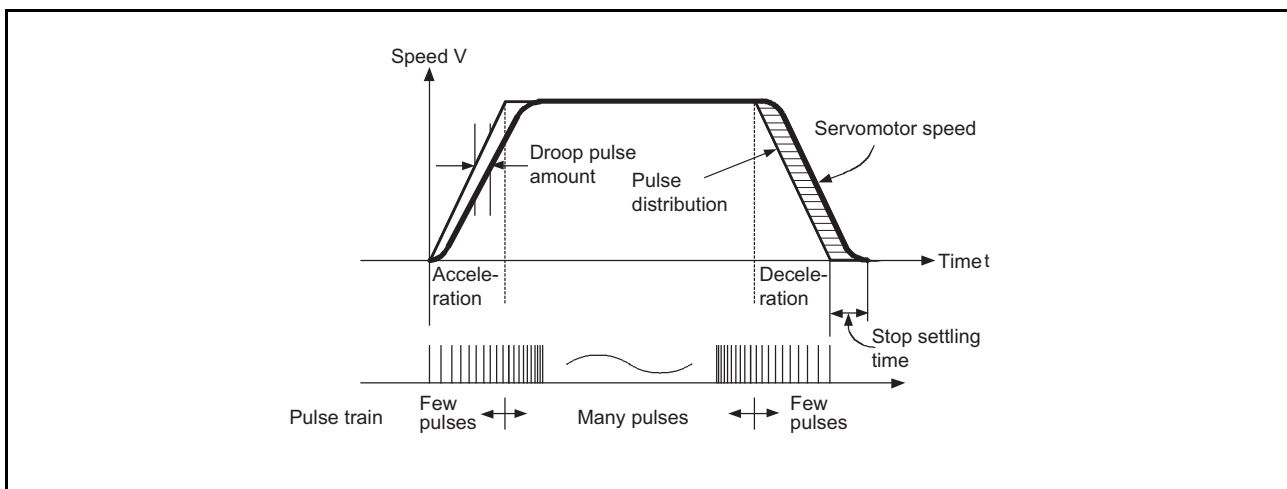

Figure 1.3 Output pulse from the QD72P3C3
- 1) As shown in Figure 1.3, the number of pulses in a pulse train is small at the start, and then the number increases as the servomotor accelerates and its speed approaches the command speed.